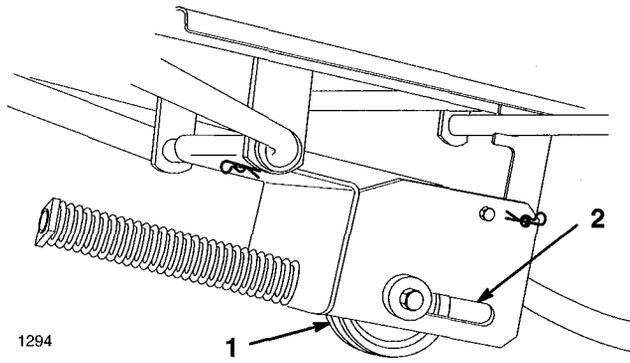

Figure 31
2. As the drive belt wears, and the snowthrower is raised and lowered, the spring loaded idler pulley moves in the slot (Fig. 31).
2. Pull on spring loaded idler pulley and remove belt from snowthrower pulley to release tension on belt (Fig. 31).